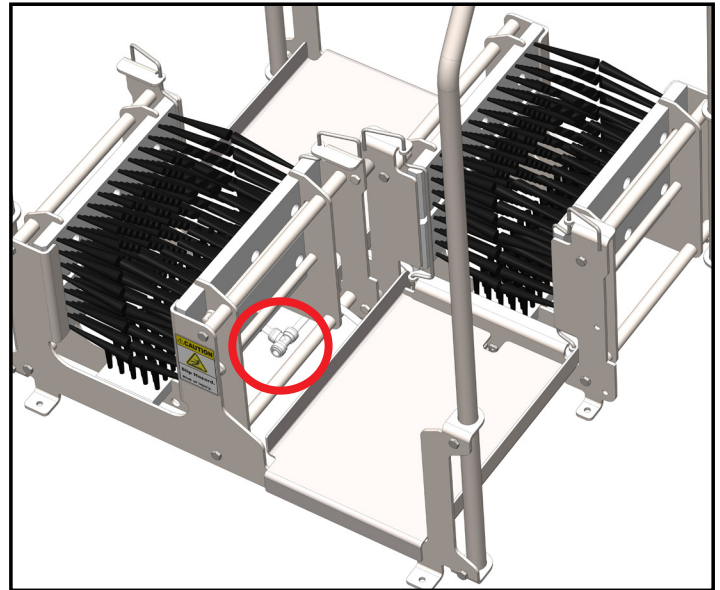

Fig. 6.1: Water line of BLX-200W
- Using the push to connect fitting, connect the Venturi system to the BLX's water line located under the unit, near one of the foot plates [Figure 6.1].